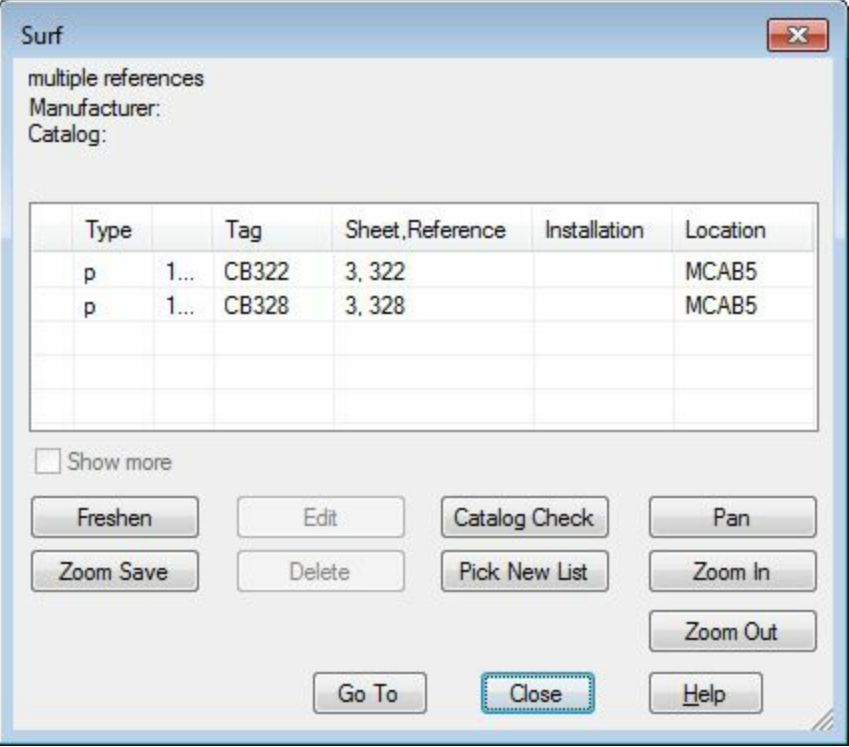

Figure-40. Surf dialog box
- If you clicked on the **OK** button then the **Surf** dialog box will be displayed; refer to Figure-40.